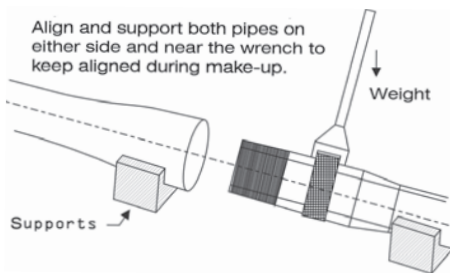

Fig. 13
- Rotation of the pipe can be assisted by using a strap wrench or a spinning tong. (See Fig. 13)